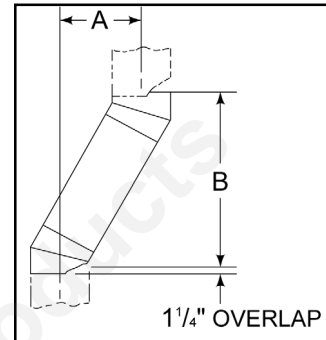

Figure 7 - Chimney Offset/Return
- 1) Measure how far the chimney needs to be shifted to enable it to avoid the overhead obstacle. See Figure 7, dimension “A” to determine chimney sections required to achieve the needed shift.
Example: Your “A” dimension from Figure 7 is 14¹/₂". Using Table 1 the dimension closest to, but not less than 14¹/₂" is 14⁵/₈" using a 30° offset/return. It is then determined from the table that you would need 33" (Dimension “B”) between the offset and return. The chimney components that best fit your application are two SL312s.